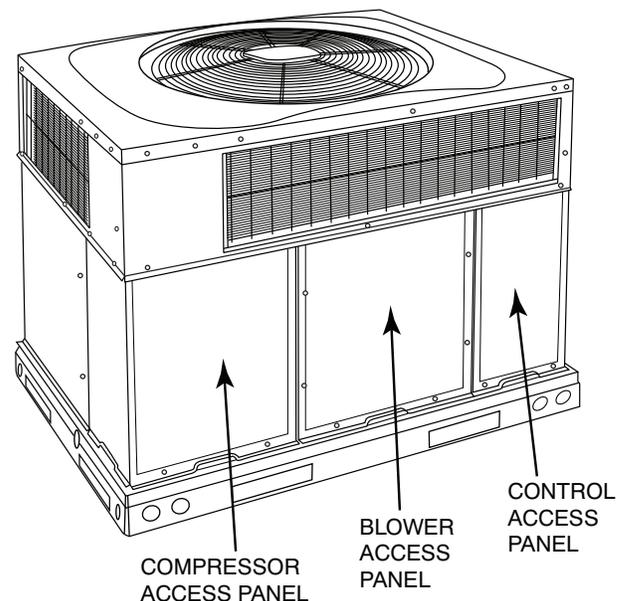

Fig. 23 - Unit Access Panels
- g. Reinstall blower access panel (see Fig. 23).